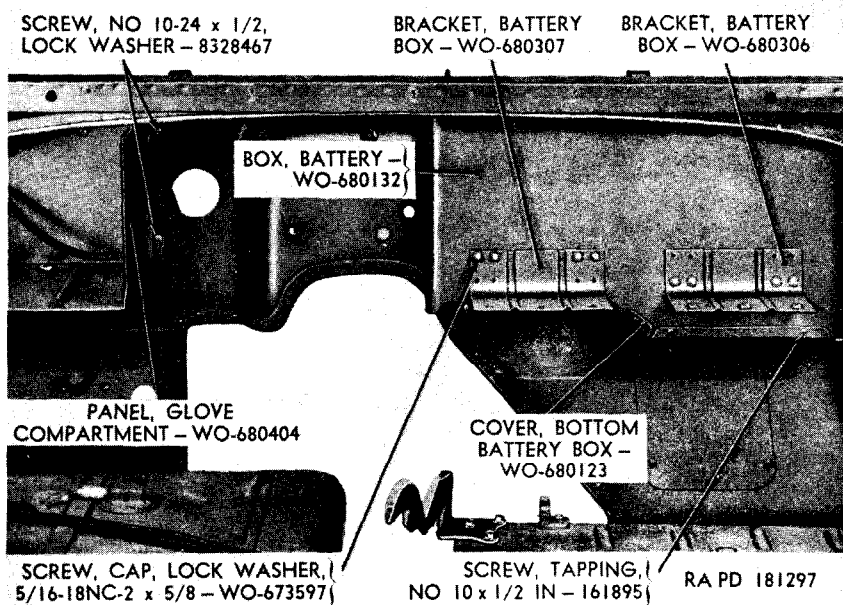

Figure 161. Body with instrument panel removed.
- (7) Remove four lockwasher cap screws (fig. 161) (accessible from inside of battery box), securing each battery box bracket to battery box, and remove brackets. These attaching screws also secure bottom battery box tray.
b. Glove Compartment Panel (fig. 161). Remove two lockwasher screws securing right side of glove compartment panel to fire wall. Remove three lockwasher screws securing bottom of glove compartment panel to dash panel. Remove glove compartment panel from fire wall.
b. Remove four tapping screws (fig. 161) which secure rear of the bottom battery box cover to battery box. Remove four tapping screws which secure rear of cover to fire wall and remove the cover.